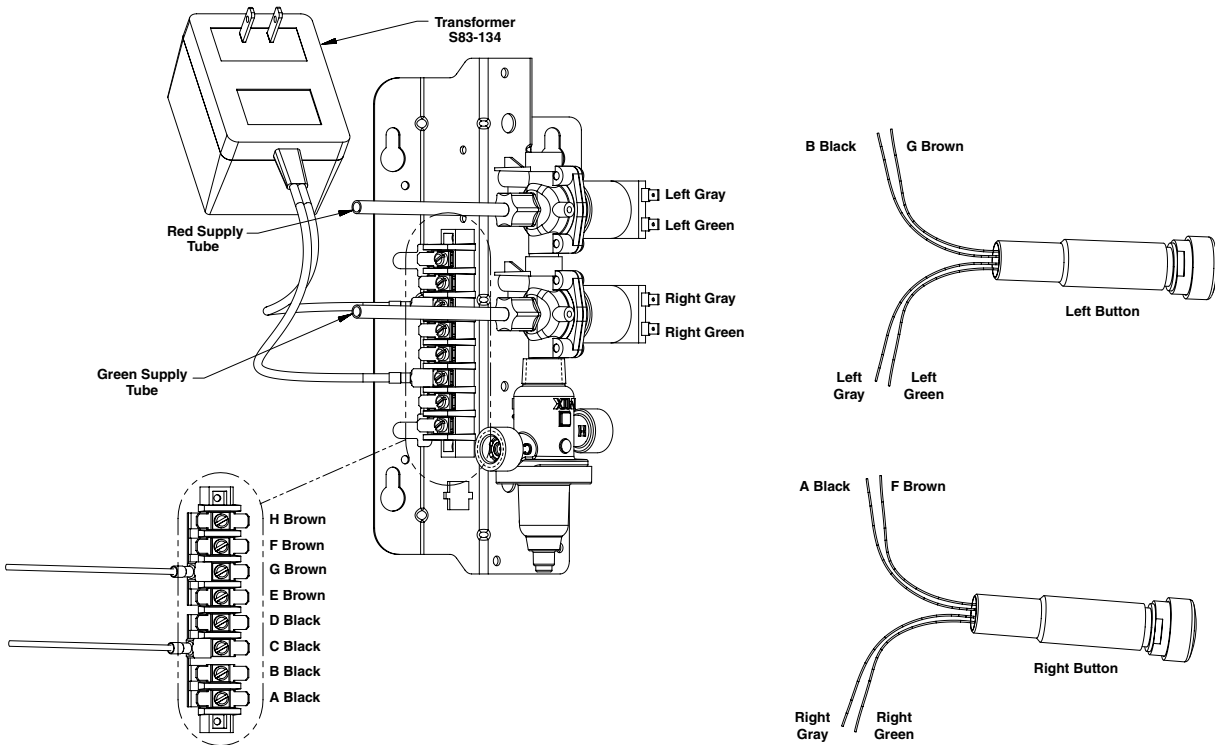

Figure 7
1. Insert the two sprayhead supply tubes into the two solenoid tube connectors by loosening the compression nut and firmly pushing the tubing into the connector until the tubes are fully seated, then re-tighten the compression nut (hand-tight plus two full turns with a wrench) (see Figure 7).